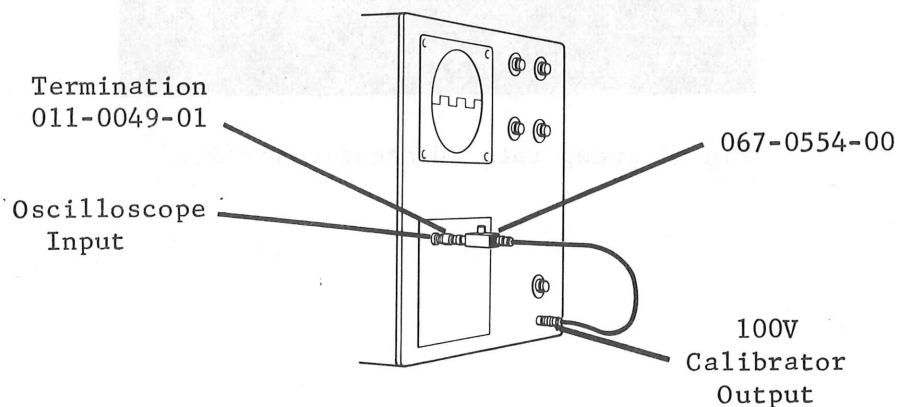

Fig. 2 Proper connection of the 067-0554-00 and Termination to the oscilloscope Input and Calibrator.
Whenever possible, use the connection method shown in Fig. 2. Connect the termination as close as possible to the input of the plug-in to reduce undesirable reactances and provide a clean step-function at the input to the plug-in unit.
1. With the Pulser and termination connected as shown in Fig. 2, set the bias control fully counterclockwise and the oscilloscope Amplitude Calibrator for a 100 volt pulse output.